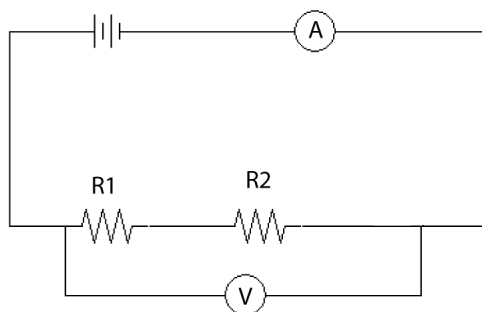

Figure 2.13: Schematic for 2 resistors connected in series.
- Construct the circuit shown in Fig. 2.13.** Use two different resistors having resistances of approximately  $1\text{ k}\Omega$  and  $2\text{ k}\Omega$ . Set the power supply voltage to the middle of its range and record your measured voltage and current in Data Table 3.